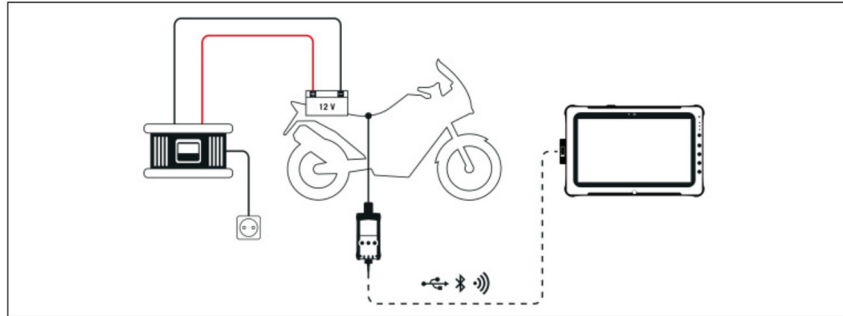

Fig. 1
- Connect the XC\_2 diagnostic tool and its VCI to the vehicle, preferably with the USB cable (Fig.1).